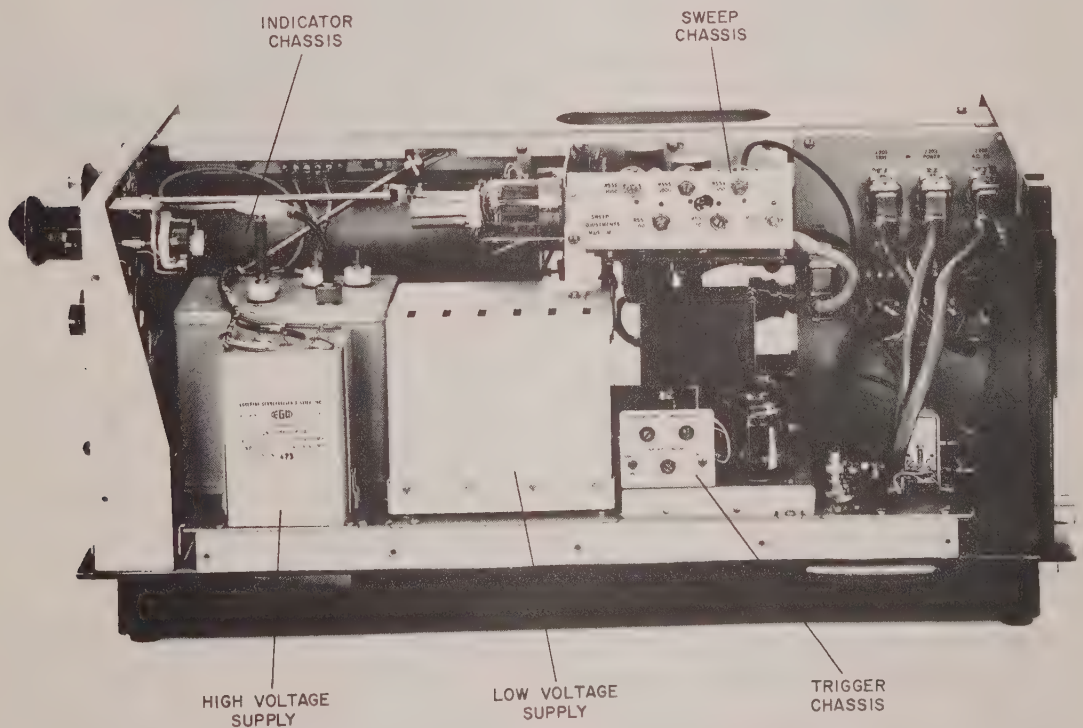

Fig. 1. Subassemblies of the Model 707.
The Model 707 Oscilloscope consists of six major subassemblies: (1) an indicator chassis, (2) a high-voltage power supply, (3) a low-voltage power supply, (4) a trigger chassis, (5) a sweep generator and (6) a reticle unit. These subassemblies are illustrated in Fig. 1.